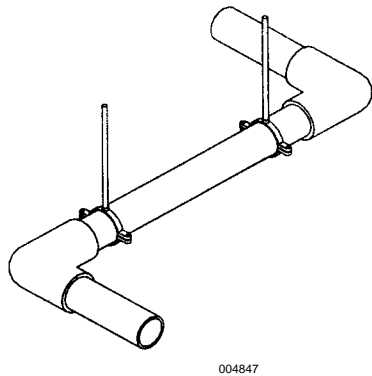

Figure 31 - Elbow Support
- Hangers must be placed between elbows that are more than 12 in. (300 mm) apart (see Figure 31).